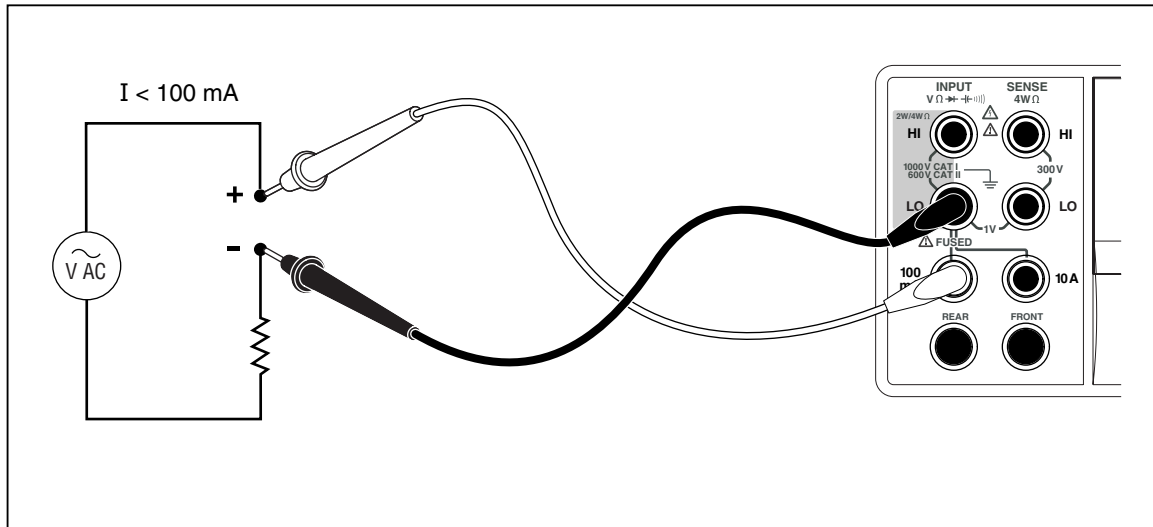
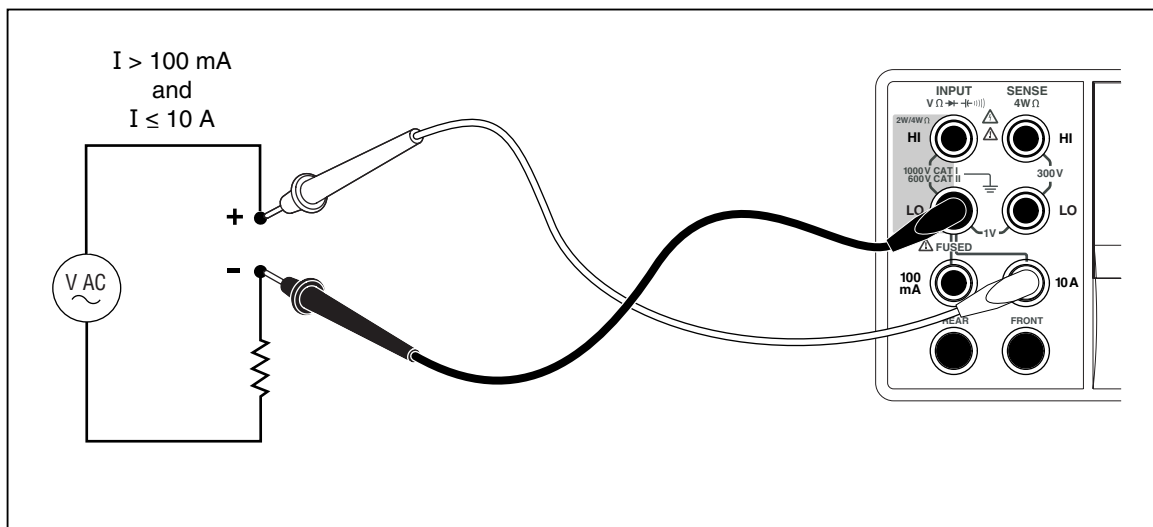

Figure 4-4. Input Connections for Current Measurements Below 120 mA
Figure 4-5. Input Connections for Current Measurements Above 120 mA
The Meter is capable of making both ac and dc current measurements up to 10 A. Two separate input connectors, in conjunction with the **LO** connector, are used for current measurements. For best resolution, current measurements not exceeding 100 mA should be made using the **LO** and **mA** input connectors as shown in Figure 4-4.
Current measurements expecting to be between 120 mA and 10 A are made using the **Input LO** and **10A** input connectors as shown in Figure 4-5.
1. Connect the test leads between the Meter’s input connectors and the measured circuit as shown in Figure 4-4 for currents 120 mA or less or Figure 4-5 for currents up to 10 amps.
1. Connect the test leads between the Meter's input connectors and the measured circuit as shown in Figure 4-4 or Figure 4-5, based on the anticipated level of current.